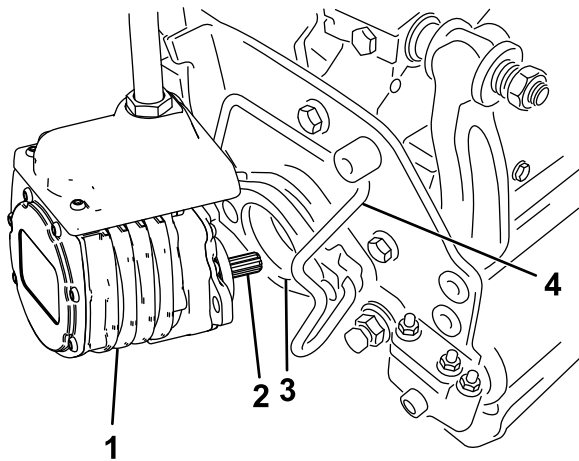

Figure 58
6. Coat the spline shaft of the cutting unit motor with clean grease (Figure 58).
7. Insert the motor into the left side of the cutting unit (as viewed from the operator's position) and pull the motor retaining bar on the cutting unit toward the motor until you hear a click from both sides of the motor (Figure 58).